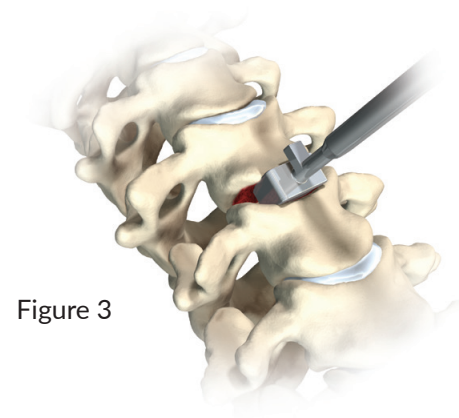

Figure 3
- Insert the trials into the disc space to determine the desired implant size. Trials have a 2mm stop designed to aid in positioning (Figure 3).